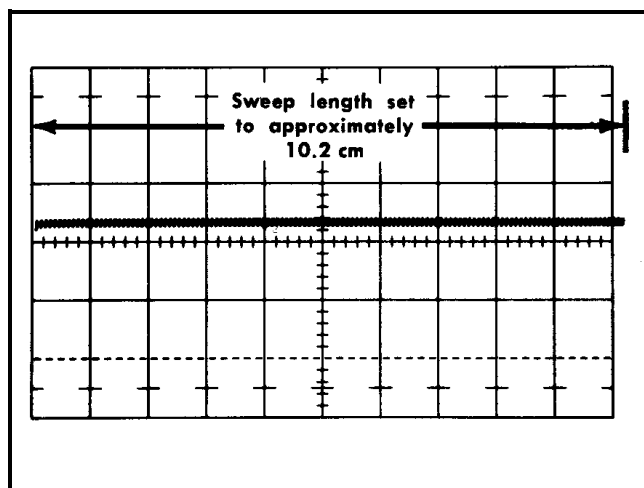

Fig. 5-8. Typical crt display after adjusting Indicator oscilloscope Horiz Input Variable control.
- Adjust the indicator oscilloscope Ext Horiz Input Variable control and Horizontal Position control to obtain approximately 10.2cm of horizontal deflection (see Fig. 5-8). Use the Horizontal Display switch position (Ext X1 or Ext X10) that will permit this adjustment.